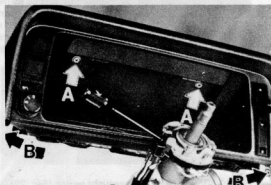

Fig. 10.32. Position of instrument panel cowl retaining screws (Sec. 34)
- 5 To remove the instrument panel cowl, undo the two screws underneath the top of the cowl and the screw at each bottom corner (Fig. 10.32).